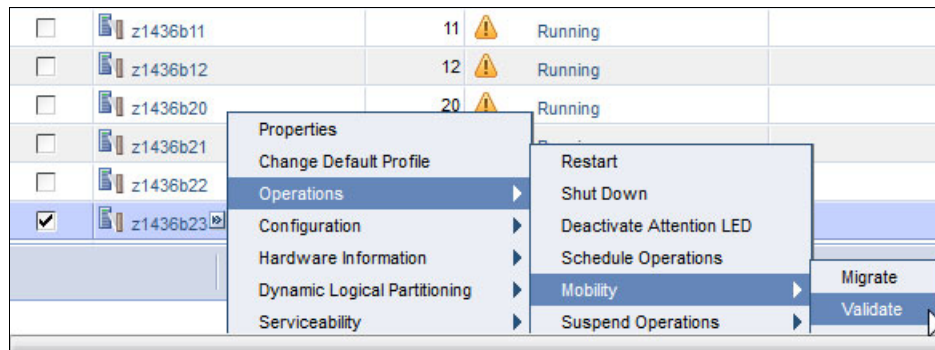

Figure 5-13 Live Partition Mobility, starting validation
1. A Live Partition Mobility validation is started from the HMC GUI, as shown in Figure 5-13.